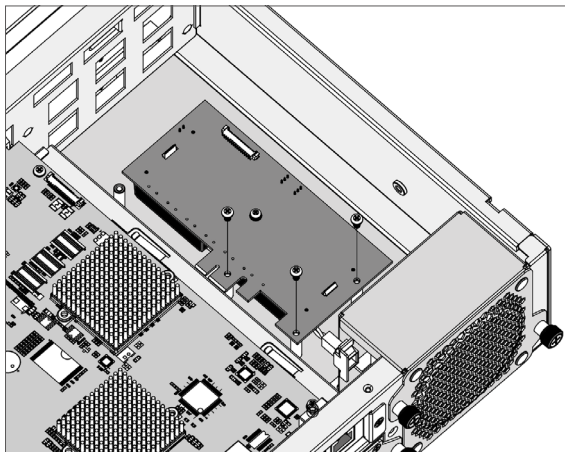

Figure B-7, Secure the Battery Module
2. After removing the cover, then secure the battery pack module (ARC-1883-BAT/CAP, reference NO.1 and NO.2 in Figure B-5) in the bottom of the enclosure (for ARC-7308/ARC-7312), as shown in Figure B-7.